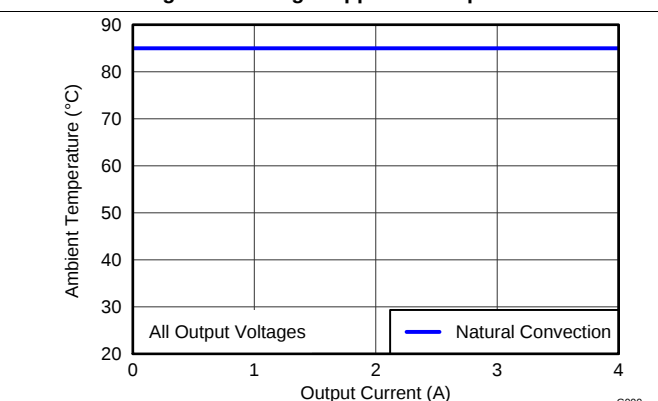

Figure 9. Safe Operating Area
(11) The temperature derating curves represent the conditions at which internal components are at or below the manufacturer's maximum operating temperatures. Derating limits apply to devices soldered directly to a 100 mm  $\times$  100 mm double-sided PCB with 1 oz. copper. Applies to Figure 9.